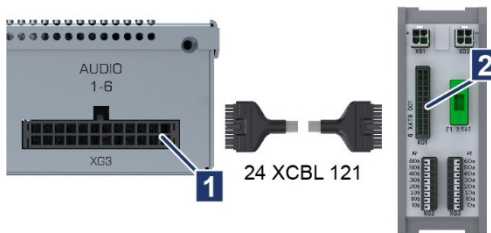

Fig. 6-3: XAL to XATB
1. Plug the connection cable 24 XCBL 121 into terminal XG3 (AUDIO 1-6) on the analog line module and into terminal XG1 on terminal block XATB (→ Fig. 6-3/1 and 2).